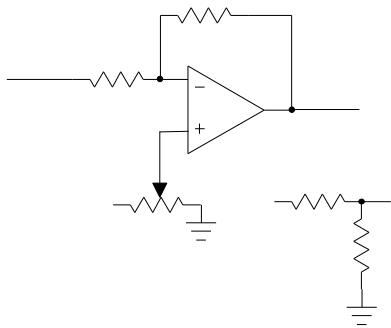

Figure 3. DC bias circuit for I and Q inputs
5) The I and Q inputs require a DC offset of 2.5V. The offset can either be supplied by the I/Q signal generator or by using an op-amp circuit of the type shown in figure 3. The circuit provides inverting unity gain so the input signal should match the requirements of the modulator. 2.5 volt DC reference signals, equal in magnitude to the I/Q DC offsets must be connected to the pads marked "R" on the board. The R pads can be directly wired together. Note: performance of the IC is critically dependent on matching the DC levels at the